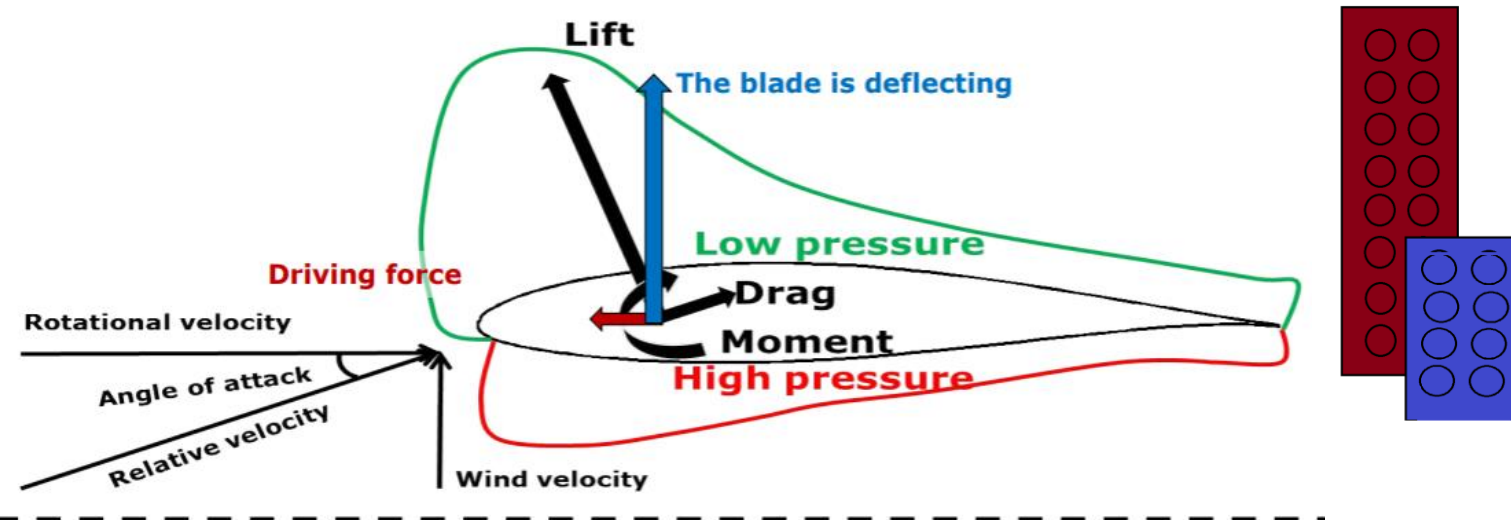

Figure 2: Lift/Drag Forces Diagram
- **Goal:** To learn first-hand about the lift & drag forces (Figure 2) as well as the dynamics involved in wind blade design.